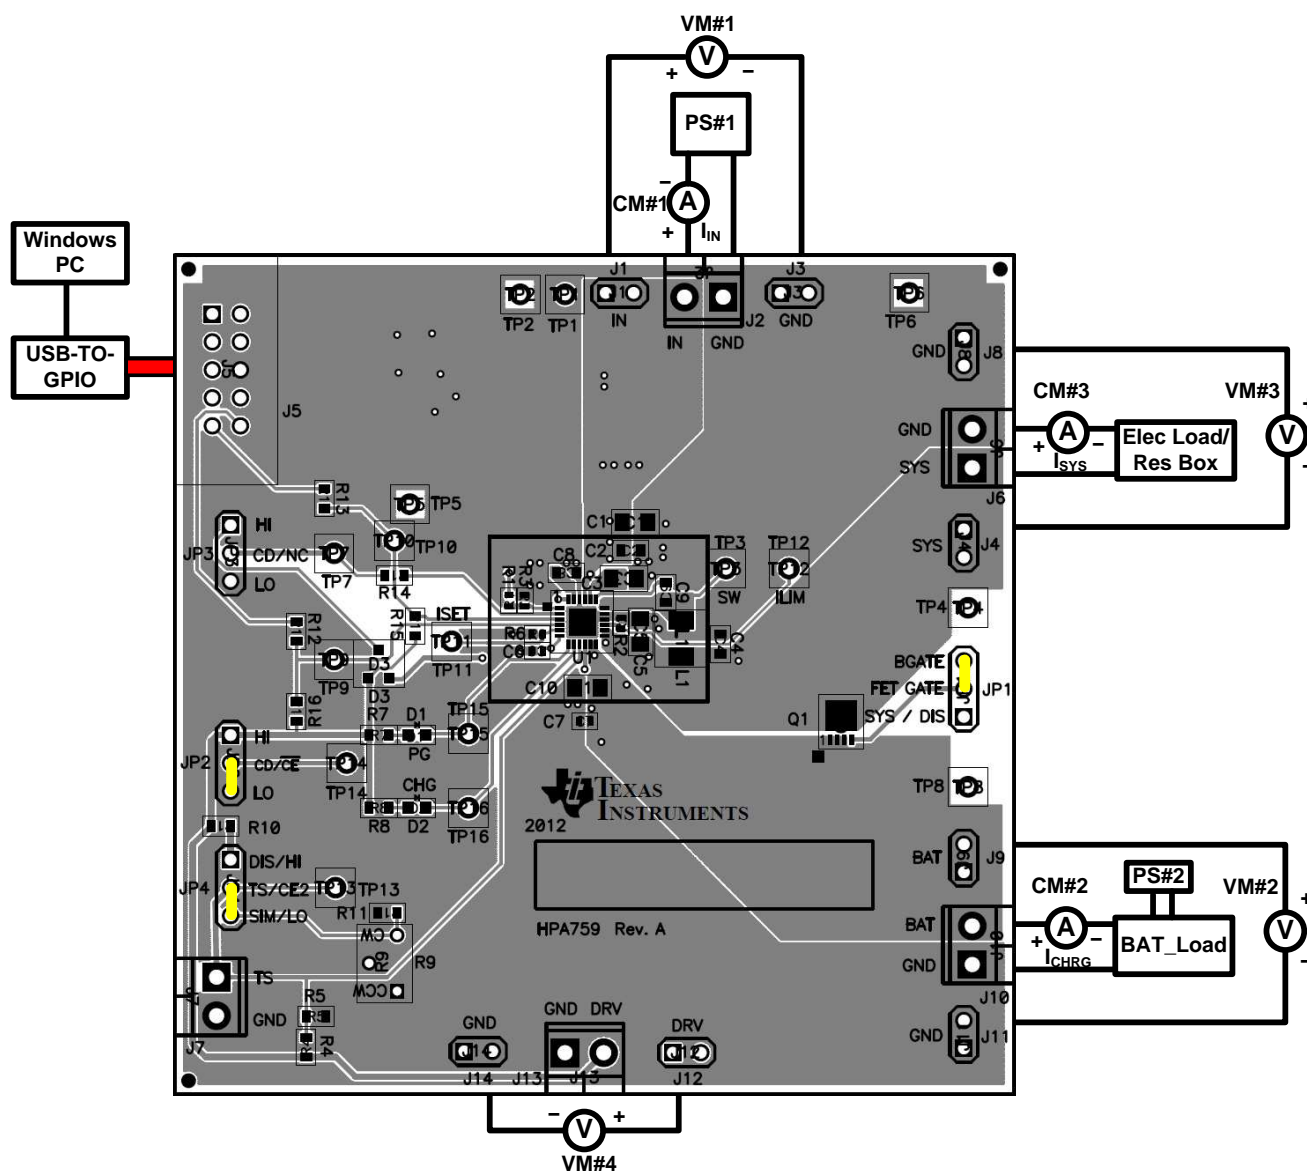

Figure 5. Original Test Setup for bq24272/273EVM (HPA759)
10. After the preceding steps have been performed, the test setup for HPA759 is configured as shown in Figure 5